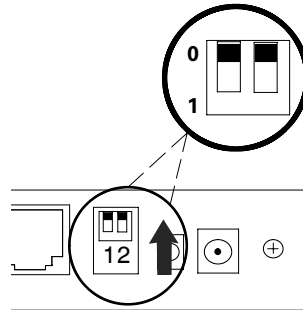

Figure 1. Verify DIP Switches
1. Verify that both DIP switches on the adapter are set to the **0** (off) position (see Figure 1).